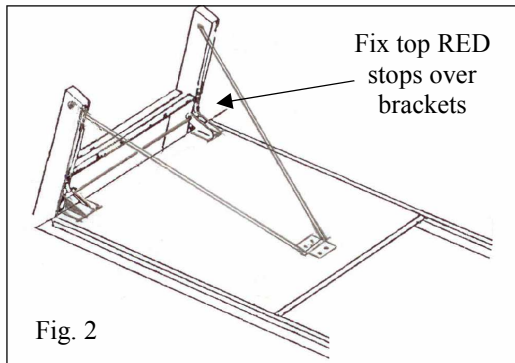

Fig. 2
- From above slide red stops in rear of ladder hard down onto mounting slides and tighten both screws fully. (Fig. 2)